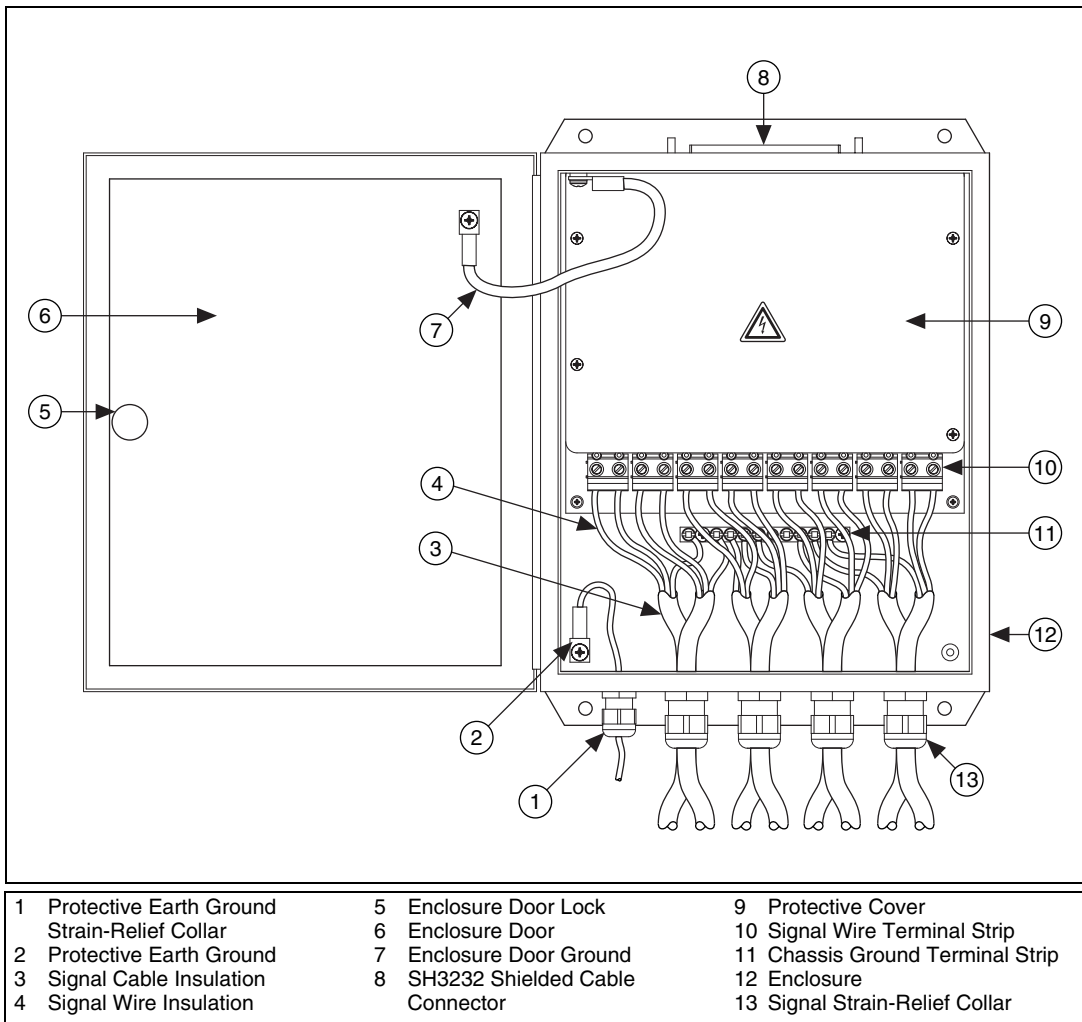

Figure 3. TBX-1316 Parts Locator Diagram
4. While referring to Figure 3, complete the following steps to install the protective earth (PE) ground wire.